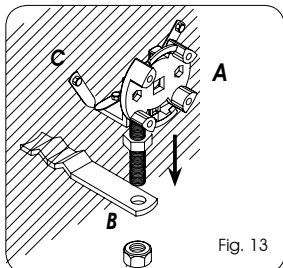

Fig. 13
1. Secure the adjustable motor support (Ref. A) in the hole of the wall fitted bracket. (Ref. B), as shown in figure 13